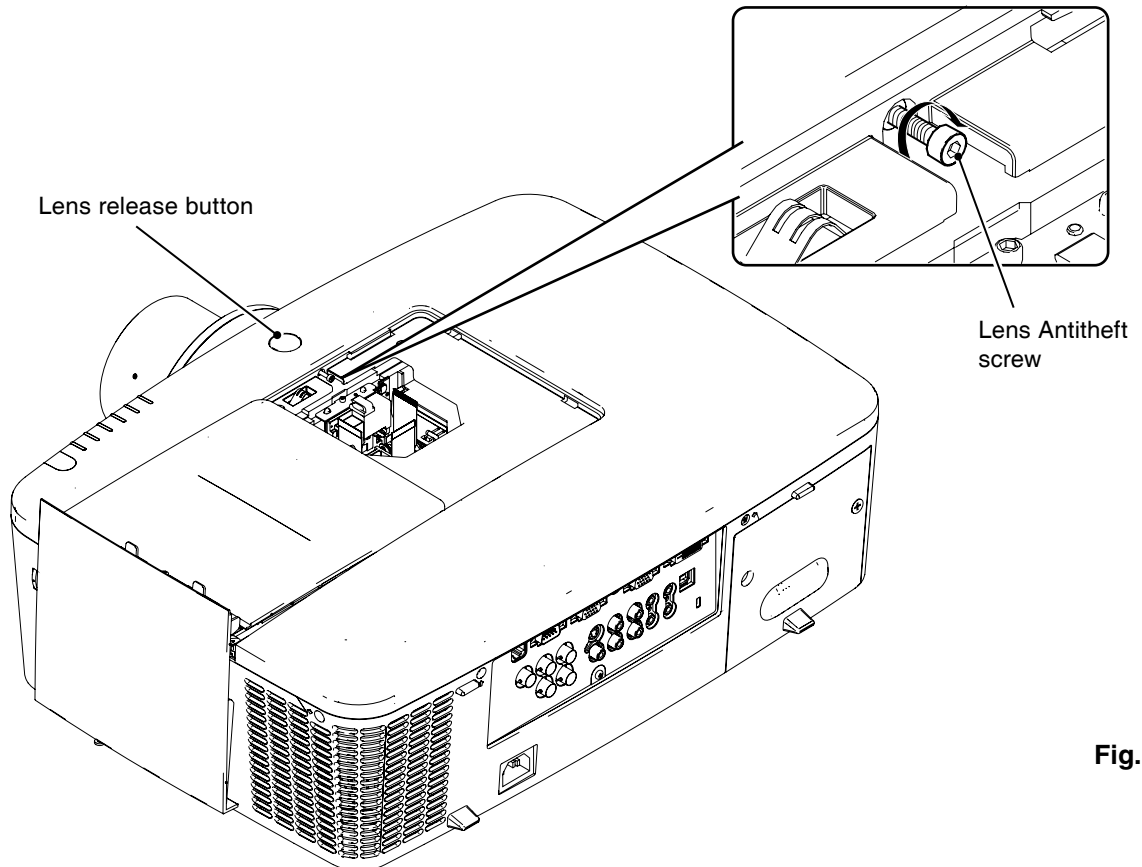

Fig. 3
- 3** Insert the Lens antitheft screw onto the screw hole on the cabinet top and turn it until the lens release button is locked (Fig. 3).